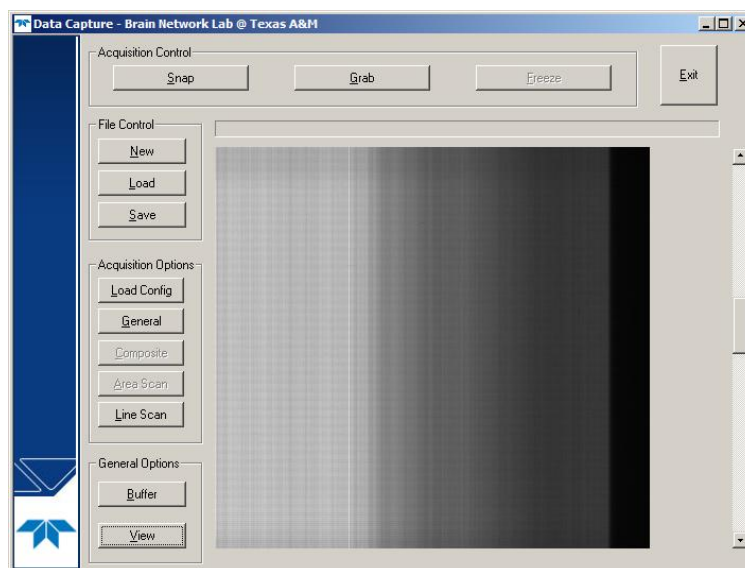

Figure 8: KESM Data Capture GUI
- i. Close the Data Capture window (Fig. 8) and launch Sopera CamExpert to focus the line scan camera.
7. Go to image in the Data Capture GUI (Fig. 8) and double check focusing (perhaps going back to the Sapera CamExpert steps)